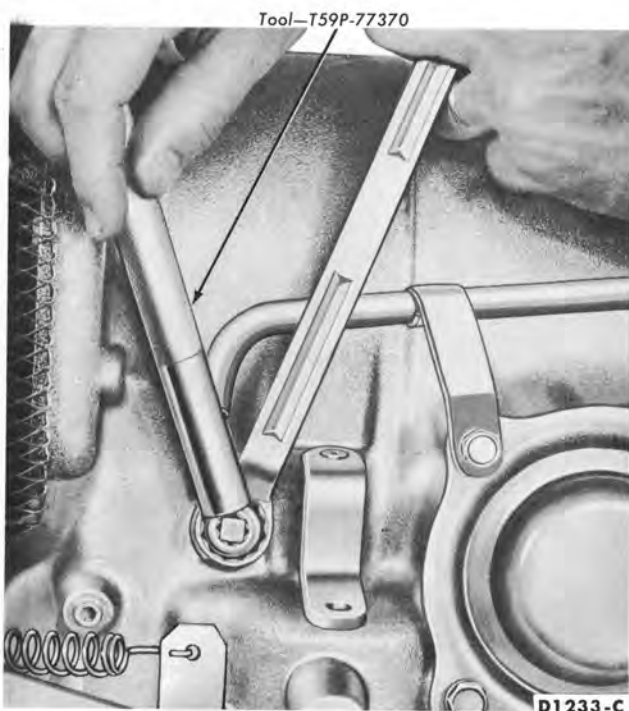

FIG. 6—Low Band Adjustment
The low band adjusting screw is threaded through the left front side of the case (Fig. 6).
2. Tighten the adjusting screw with the tool shown in Fig. 6 until the